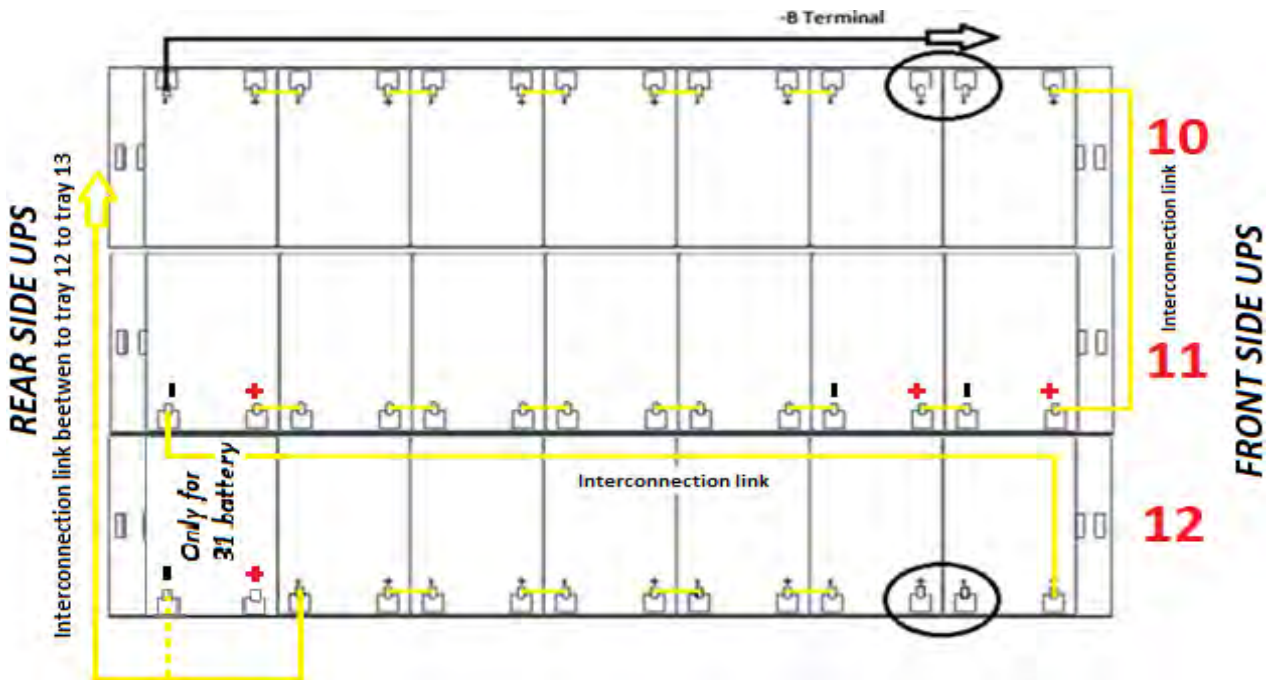

Figure 38 - View from above Level No.4 with battery connections
12) Wire the level as indicated in Figure 38. Leave the circled jumpers disconnected.